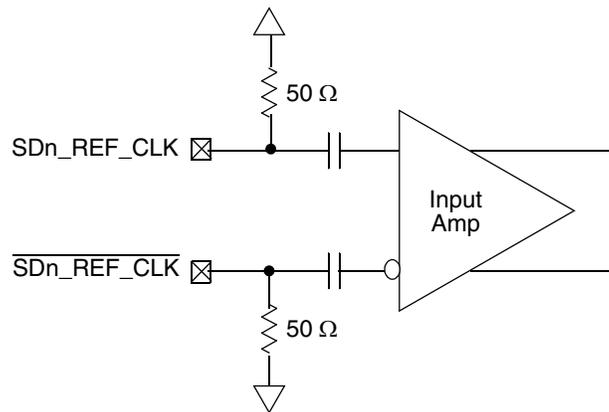

Figure 58. Receiver of SerDes Reference Clocks
Figure 58 shows a receiver reference diagram of the SerDes reference clocks.
- The $\overline{SDn_REF_CLK}$ and SDn_REF_CLK are internally AC-coupled differential inputs as shown in Figure 58. Each differential clock input ($\overline{SDn_REF_CLK}$ or SDn_REF_CLK) has a 50-Ω termination to SGND (xcorevss) followed by on-chip AC-coupling.